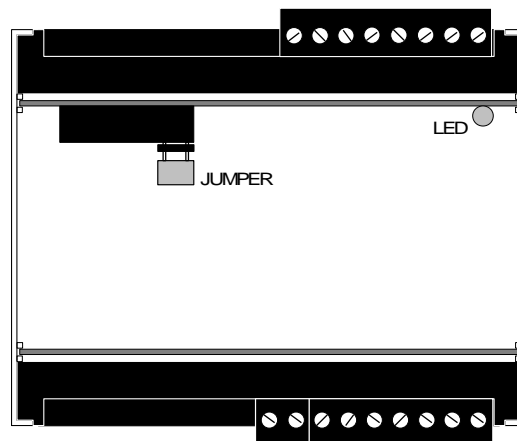

Figure 14. Location of the jumper, controlling the temporary communication.
- Remove the jumper inside the module, indicated in figure 14.